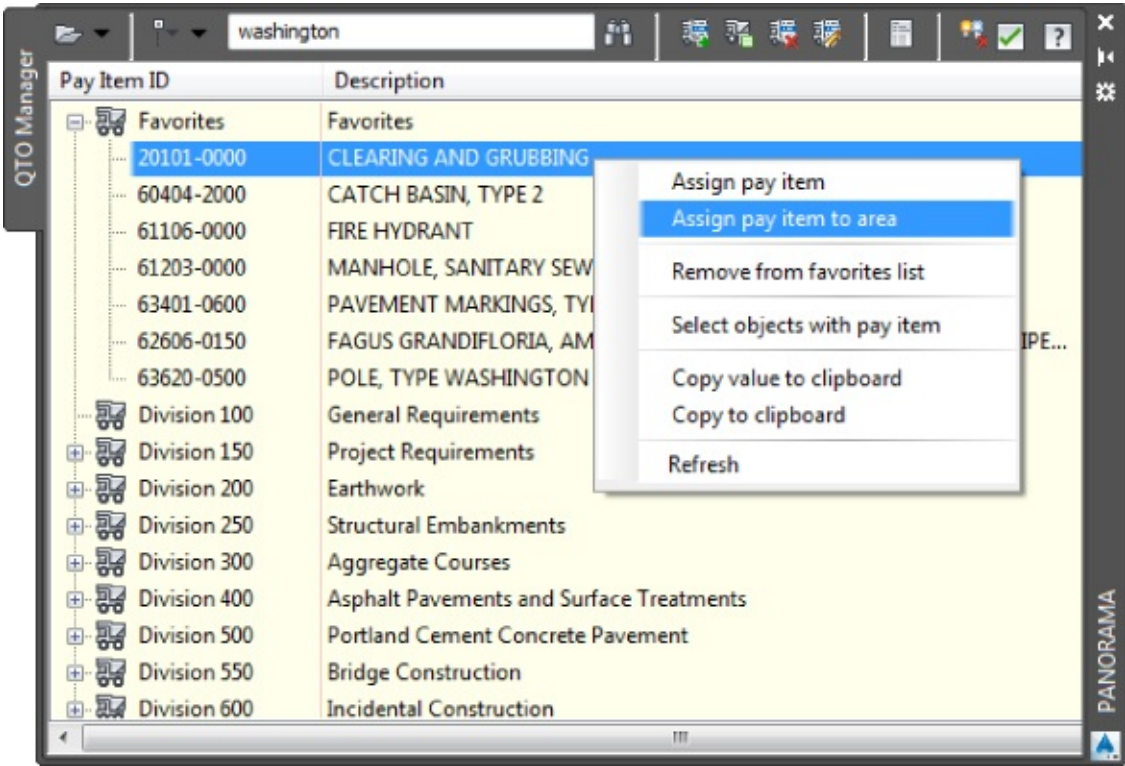

Figure 17.7 Assigning an area-based pay item
- 3. Expand the Favorites branch, right-click CLEARING AND GRUBBING, and select Assign Pay Item To Area, as shown in Figure 17.7.